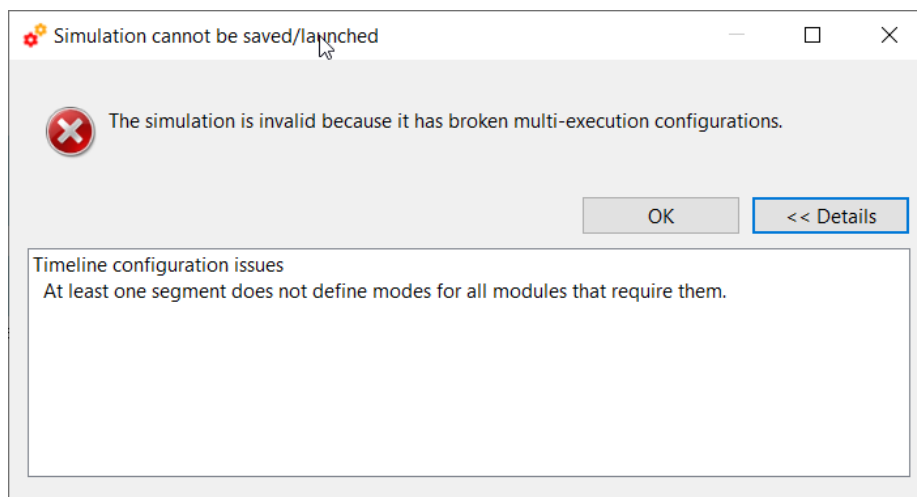

Figure 4-110: Execution prevented due to configuration issues
- ❑ If any parameter has been added or deleted from the configuration files of any active module involved in the simulation, the execution will not be carried out, and a dialog will be displayed listing the configuration issues as shown in Figure 4-110. See section 4.4.2.6 for details.